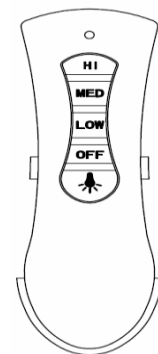

Fig. 13b
3. Slide the remote into the holder. (Fig. 13b).